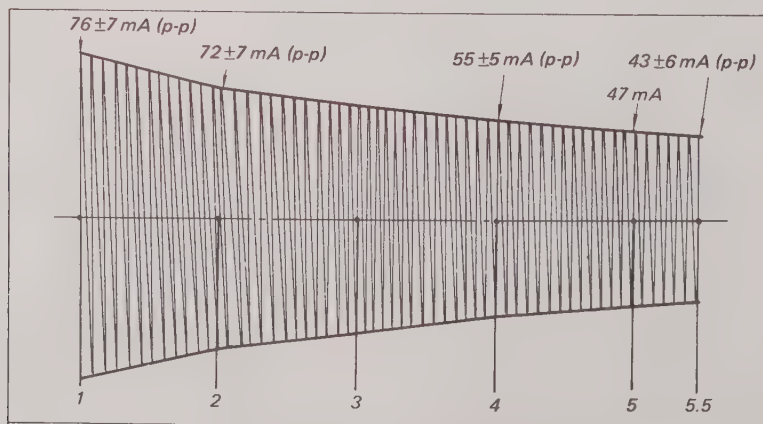

Fig. 8-35. Record characteristic
6. Adjust R195 (R223) and R197 (R226) for the response shown in Fig. 8-35.